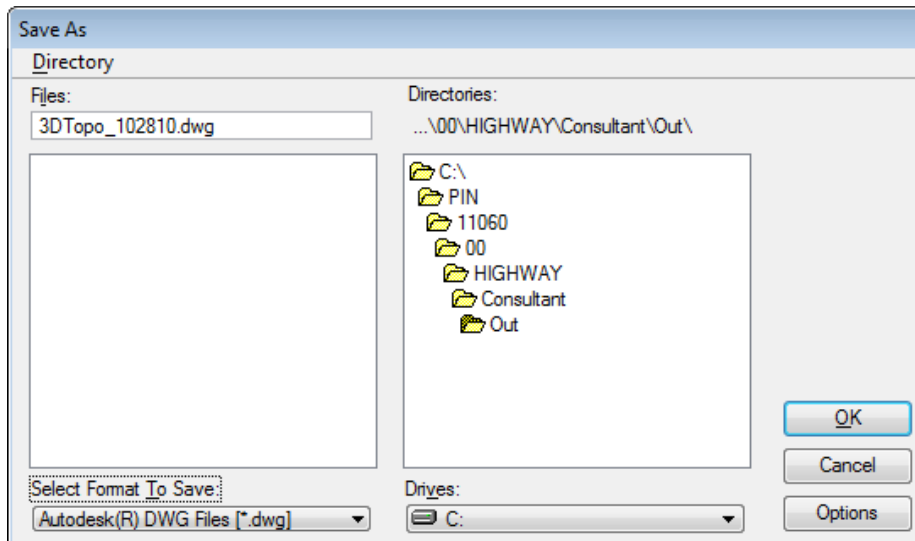

Figure 32-12: Save As dialog (*.dwg File Format) pointing to the Workgroups Consultant/OUT directory
Choose **File > Save As...** from the Main Menu. A dialog will open (Figure 32-12) giving you the opportunity to change the file type and directory path. From the "Select Format to Save" pull down, select **AutoCAD (R) DWG Files (*.dwg)**. Browse to your *Workgroup's Consultant\OUT* directory (i.e., Y:\pin\8467\00\Highway\Consultant\OUT).